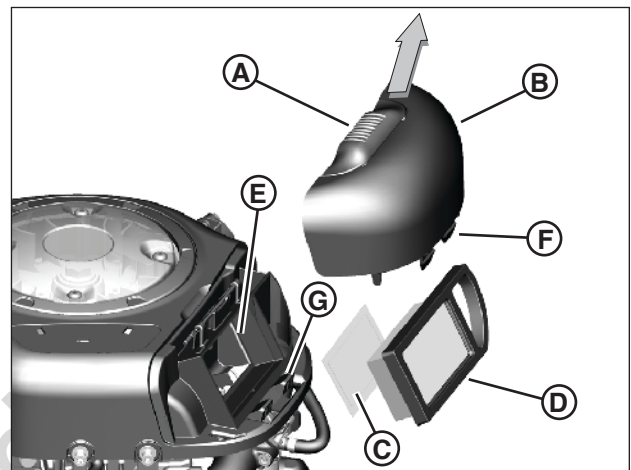

Figure 25: Air filter (flat)
1. Pull up on the cover handle (A, Figure 25). Rotate the cover handle toward the engine and then remove the cover (B).
2. Remove the pre-cleaner (C), if equipped, and the filter (D).
5. Assemble the dry pre-cleaner and the filter into the engine base (E).
6. Align the tabs (F) on the cover with the slots (G) in the blower housing. Rotate the cover handle back and push down to lock in place.